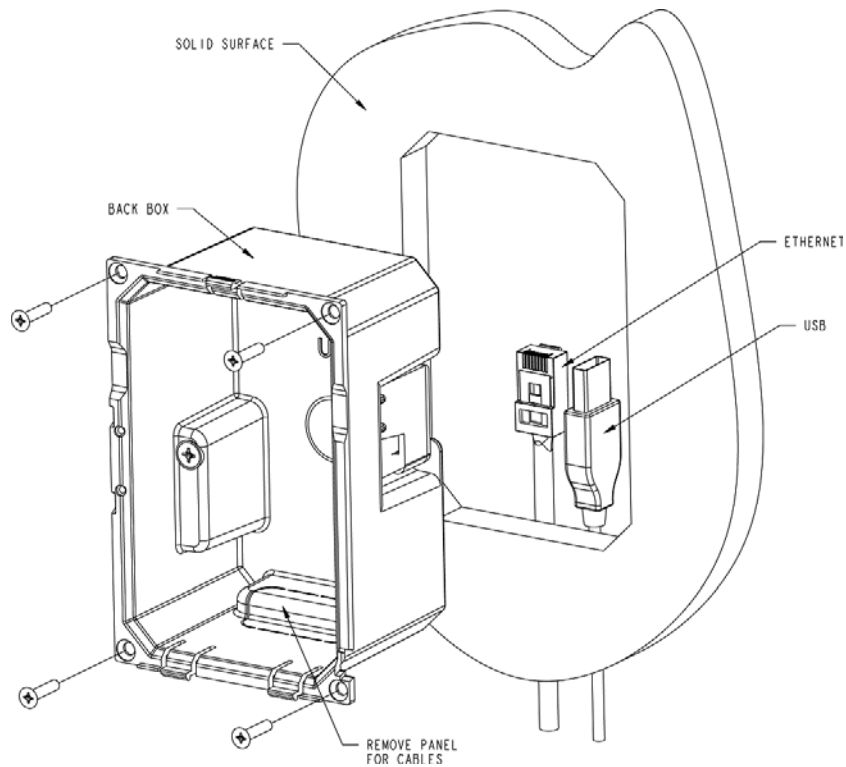

FIG. 55 MXD-430 Backbox Installation - Solid Surface
- FIG. 55 provides an illustration of the MXD-430 mounting into a solid surface:
- For additional strength, #4 mounting screws (not included) may be secured through the holes located at the top and bottom of the MXD-430 (FIG. 55). In order to prevent damage to the touch panel, make sure that these are flush with the Backbox.